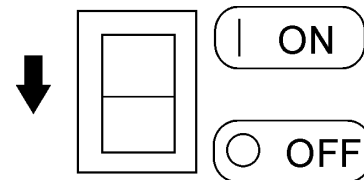

Figure 22. Idle Control Switch (Off)
- Place the **idle control switch** (Figure 22) in the **OFF** position.